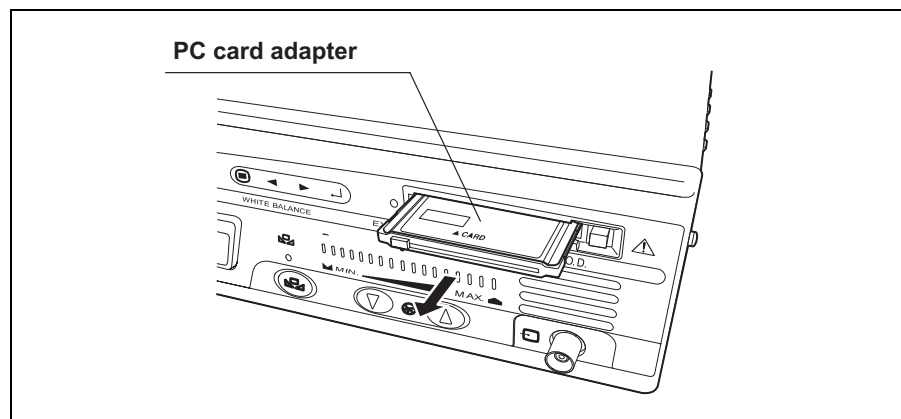

Figure 3.22
3. Pull the PC card adapter straight out (see Figure 3.22).